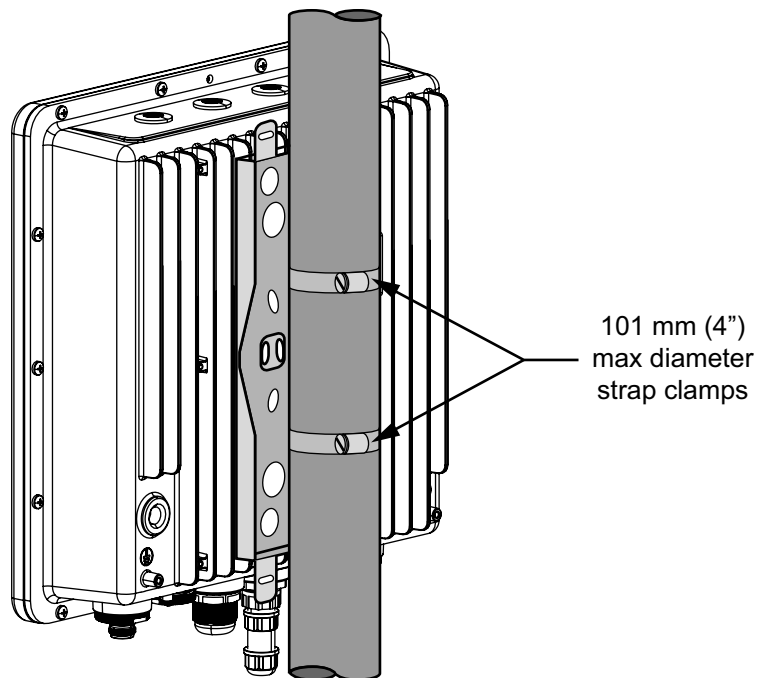

Figure 2-5. MA27102A Vertical Pole Mounting
Install the universal mounting bracket as instructed in Section 2-5. The bracket can accommodate mounting to a pipe diameter up to 101 mm (4 in). Refer to Figure 2-5 during this procedure.
The MA27102A universal mounting bracket can accommodate mounting to a variety of wall structures. The user is responsible for selecting the appropriate wall fasteners for the structure of the wall, and the fastening system must be sufficient to carry the load of the instrument and cabling. Refer to Figure 2-5 during this procedure.
1. Install the universal bracket extensions as shown in Figure 2-5 (1).
4. Attach the instrument and bracket assembly to the wall with the appropriate user-supplied wall fasteners (Figure 2-5 (2)). Use all four mounting holes on the universal bracket extensions. These slotted holes accept screws up to 6.3 mm (1/4 inch).